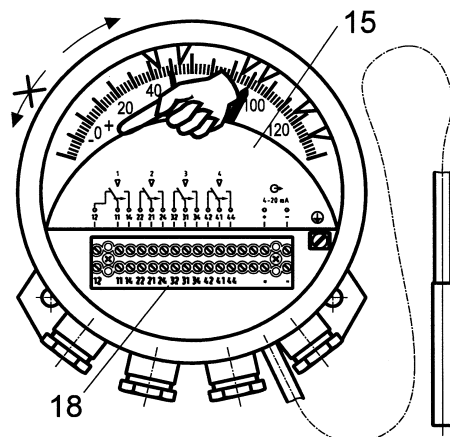

Fig.2
3.1 Electrical connection (Fig.2)
3.2 Inspection of the microswitches (Fig.2)